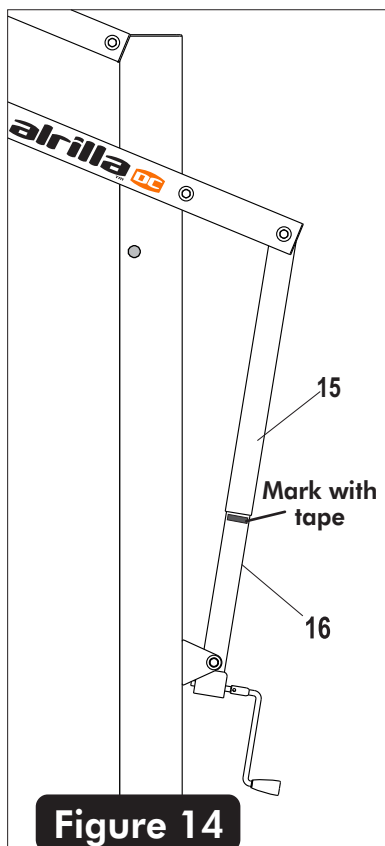

Figure 14
29. Using tape - mark the **side** of the steel actuator (#16) just under the plastic actuator sleeve (#15) at this 10 ft rim height. See **Figure 14**.